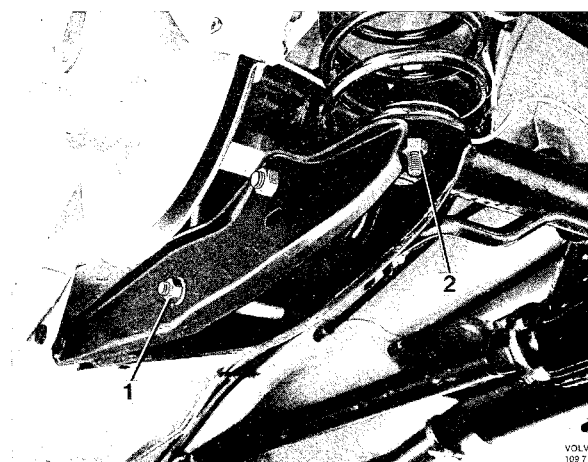

Fig. 7-5. Rear spring
3. Support the spring by using a jack while disconnecting the lower shock absorber mounting (1, Fig. 7-5) at the side the spring is to be replaced.
4. Remove the spring lower retaining nut (2).